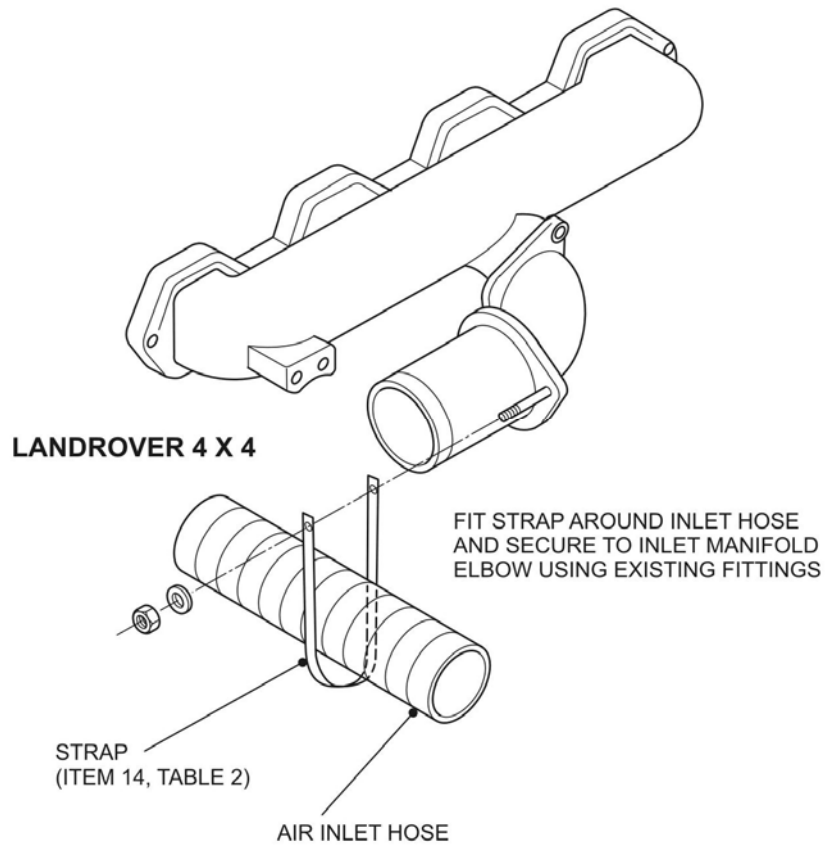

Figure 2 Air Inlet Hose Clamp (4X4)
- z. **4X4 Variant.** Fit the securing strap (Item 14) to the air inlet hose and attach it to the inlet manifold (Figure 2).